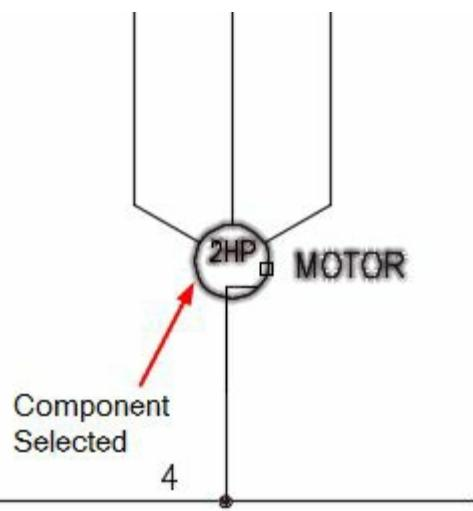
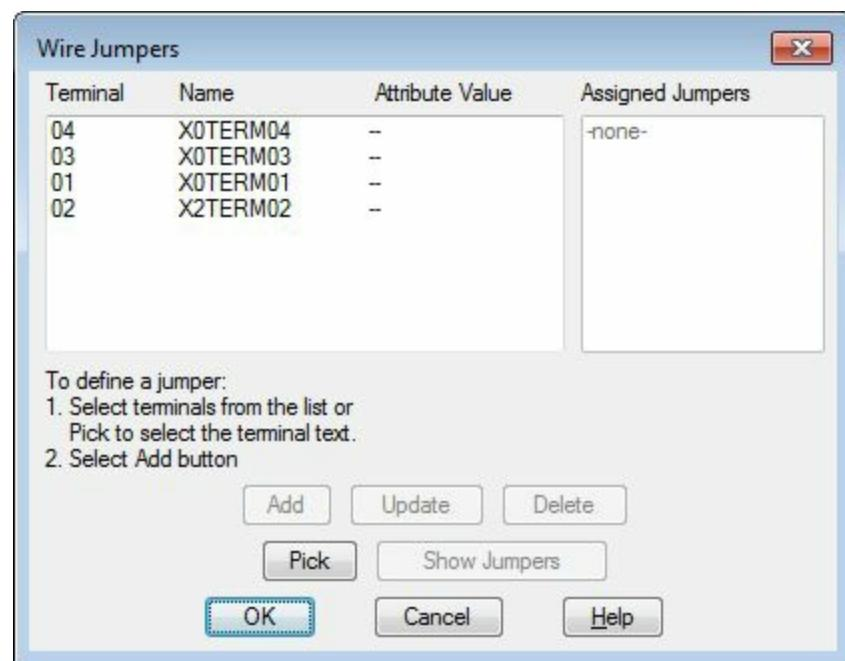

Figure-6. Component selected
Figure-7. Wire Jumpers dialog box
- Select the component; refer to Figure-6. The **Wire Jumpers** dialog box will be displayed; refer to Figure-7.